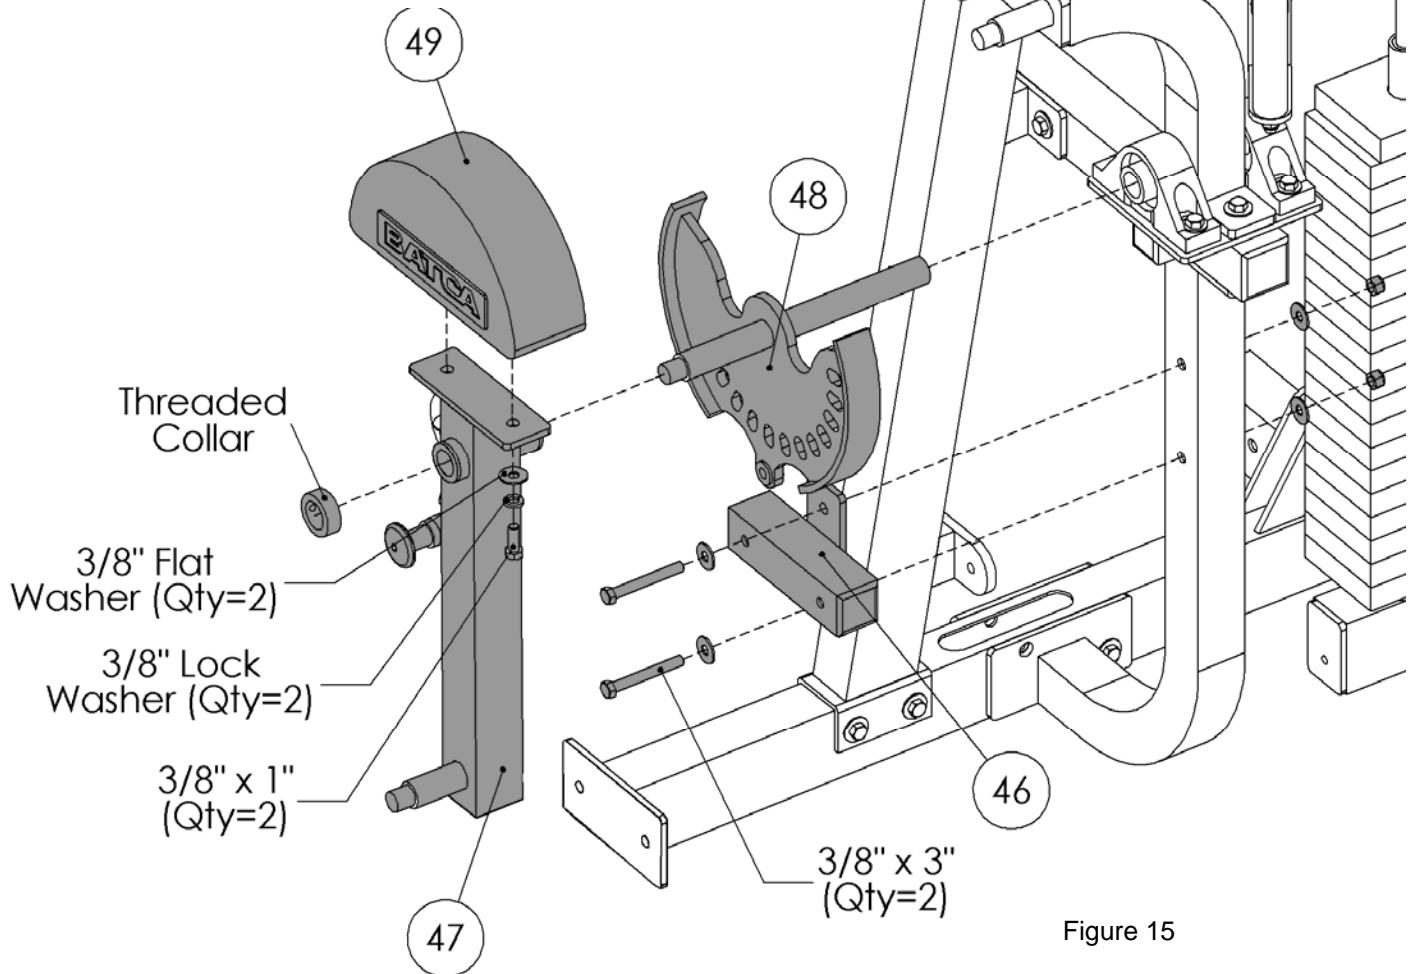
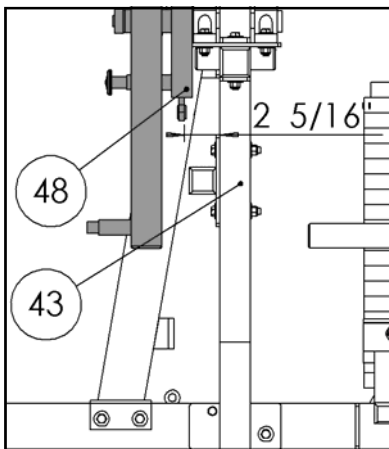

Figure 15
Figure 15A
**Note:** It is very important that the threaded shaft of the Leg Ext/Curl Cam (48) be lined up parallel to the Leg Ext/Curl Base (4). It is also very important that the inside face of the Leg Ext/Curl Cam (48) [the side facing away from you in Fig 15] is 2 5/16" from the face of the Elbow Support (43) as seen in Figure 15A.